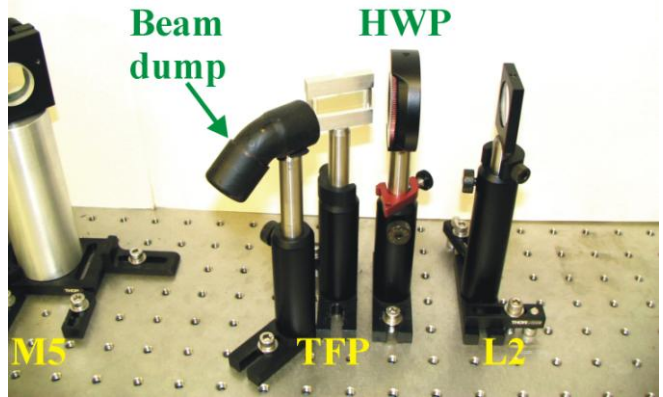

FIGURE 15
**Note:** that TFP will offset the beam from the optical axis defined by the apertures. Make sure that the residual beam is reflected into the beam dump shown in FIGURE 15.